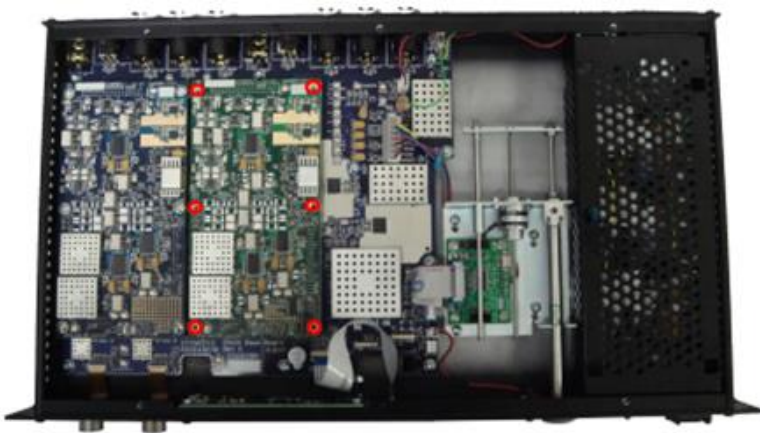

Figure 24
5. Attach the screws to the probe module as shown in Figure 24.